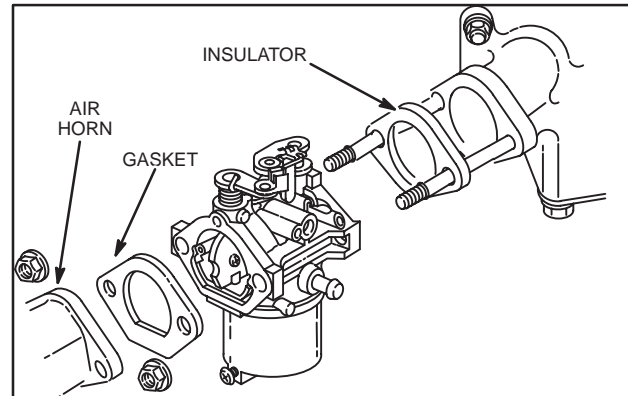

Fig. 4 – Removing Carburetor
- Remove nuts, air horn, carburetor and insulator, Fig. 4. Discard gaskets.